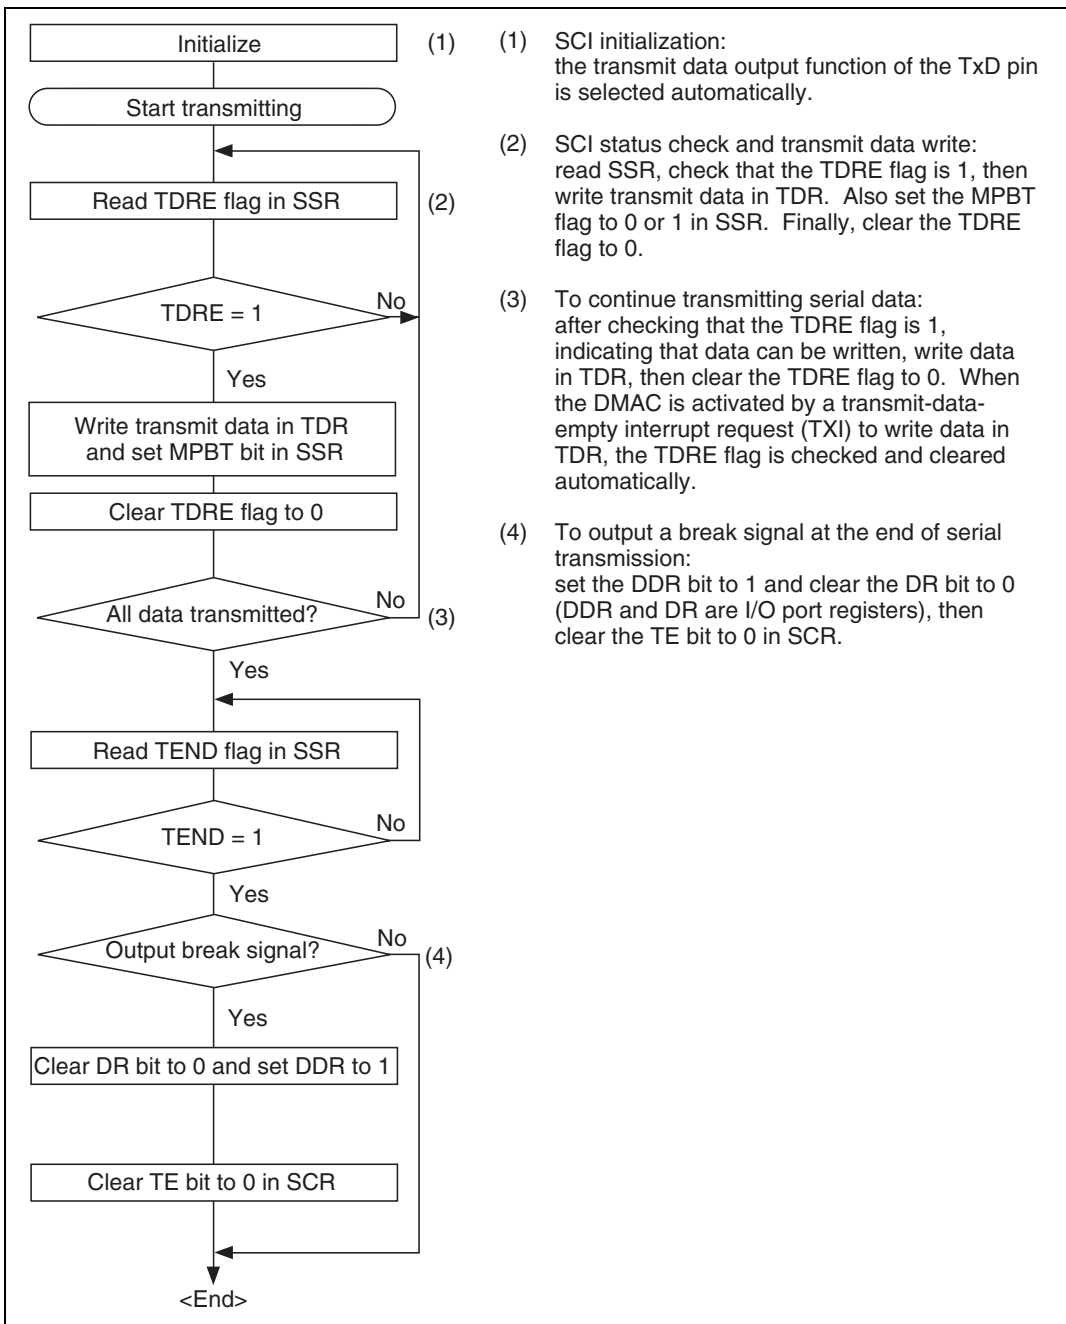

Figure 13.10 Sample Flowchart for Transmitting Multiprocessor Serial Data
- **Transmitting Multiprocessor Serial Data:** Figure 13.10 shows a sample flowchart for transmitting multiprocessor serial data and indicates the procedure to follow.